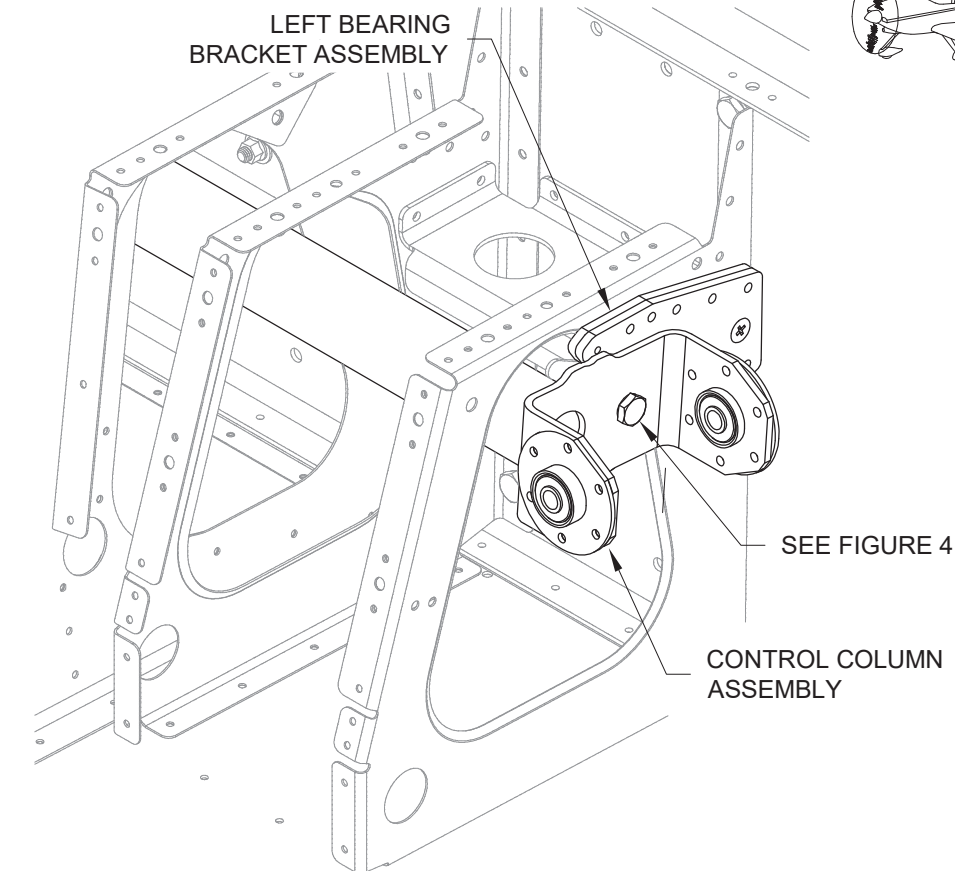
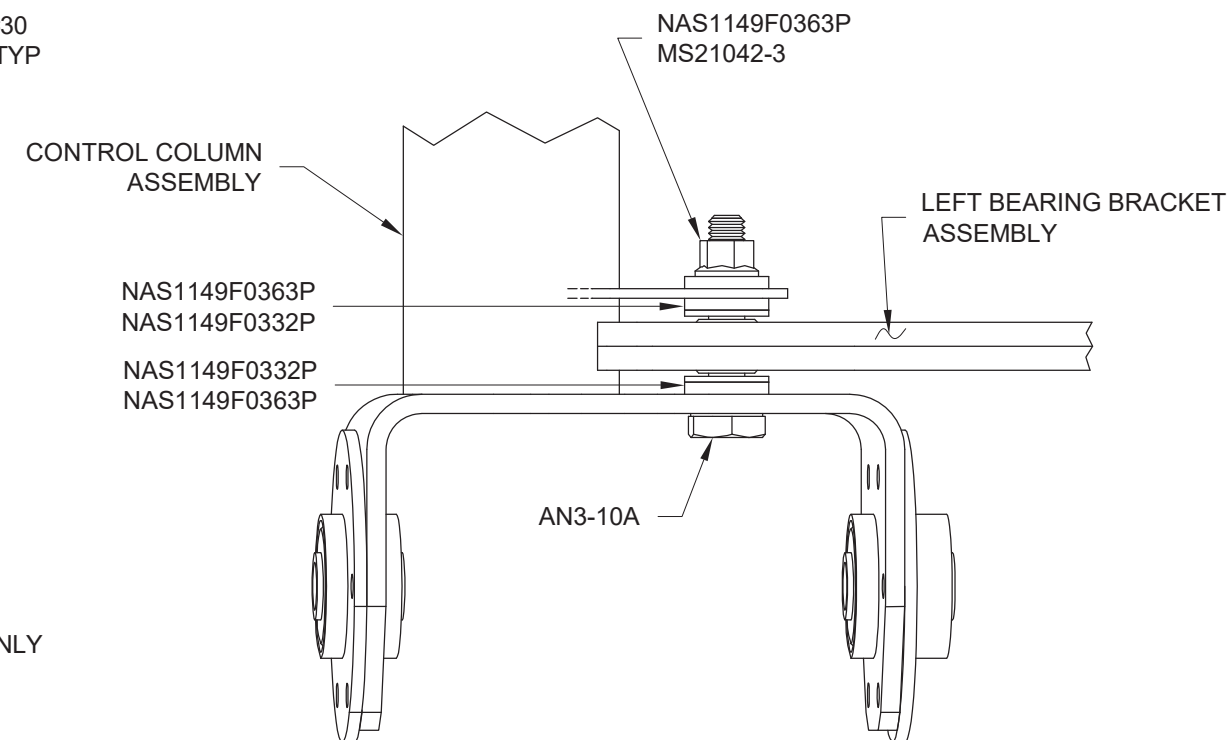

FIGURE 3: CONTROL COLUMN ASSEMBLY INSTALLATION (COVER PLATE NOT SHOWN FOR CLARITY)
FIGURE 4: CONTROL COLUMN ASSEMBLY HARDWARE
Step 7: Bolt the Control Column Assembly to the Bearing Bracket Assemblies in the Forward Fuselage Lower Structure as shown in Figure 3 and Figure 4.